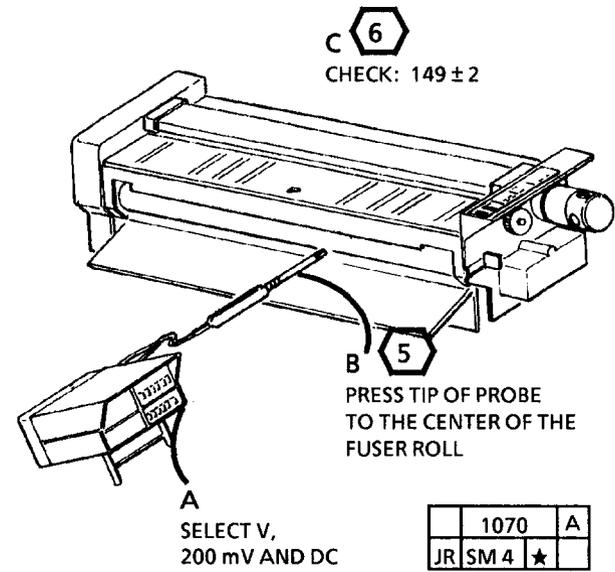

Figure 3. Check the Fusing Temperature
- (FIGURE 3): CHECK THE FUSING TEMPERATURE.